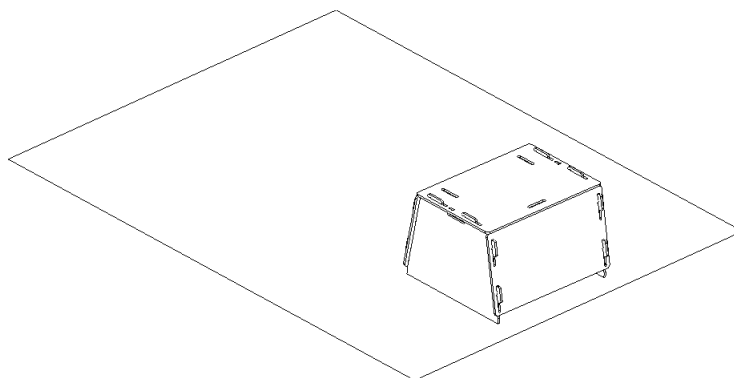

Figure 169: Scanner stand resting on the sheet.
2. Align the scanner stand with the rectangle marked on the sheet, paying close attention to the orientation of the slots in the stand cover (see Figure 169).